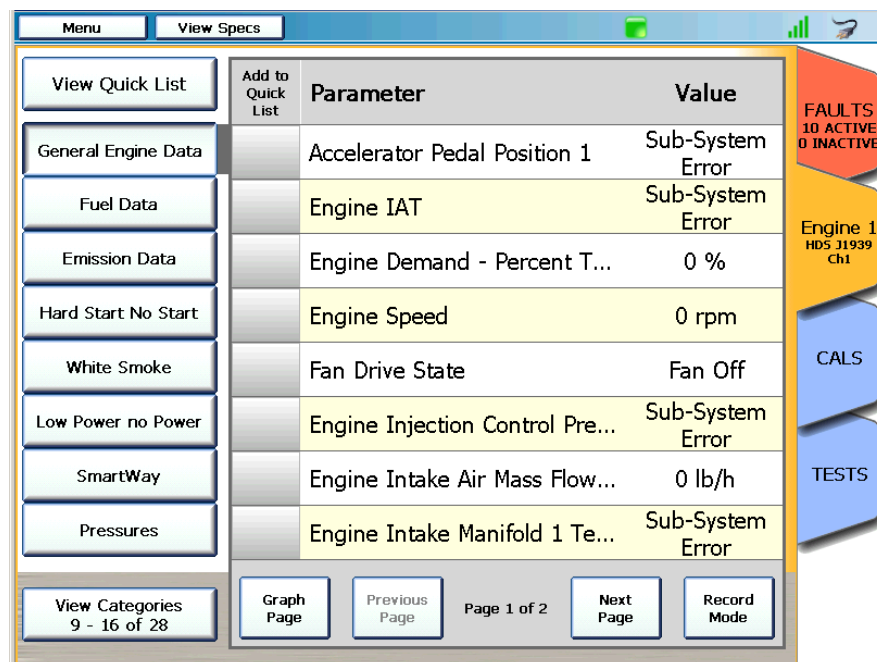
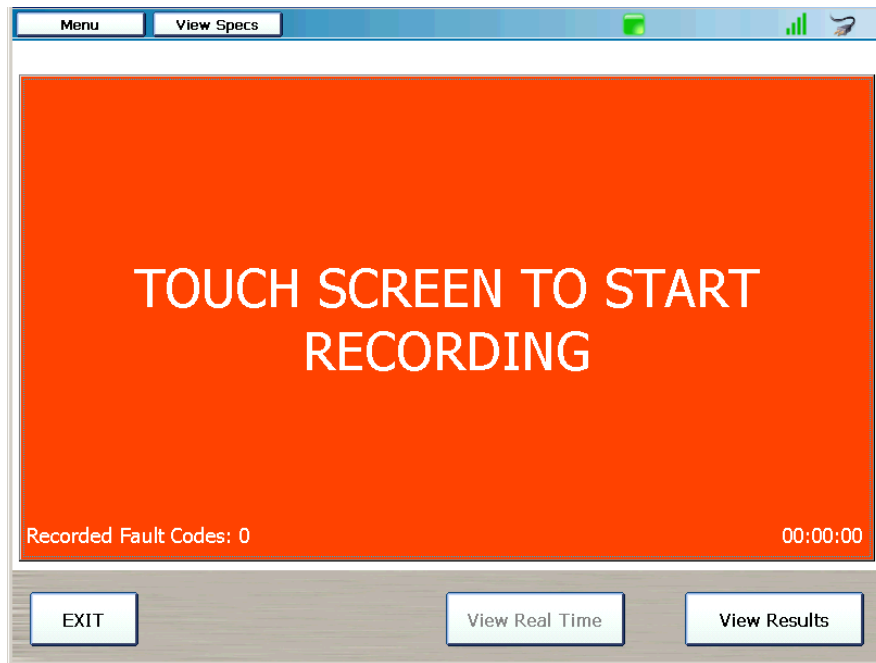

Figure 7.1 List of Parameters
Figure 7.2 Record Mode Screen
STOP	<ul style="list-style-type: none"> <li>• Ends a recording (you need to confirm that you want the recording to end).</li> <li>• Returns you to the Record Mode screen (Figure 7.2).</li> <li>• Changes to EXIT once you stop the recording; the EXIT button takes you back to the list of parameters (Figure 7.1).</li> </ul>
View Results	<ul style="list-style-type: none"> <li>• Enables you to review in Playback Mode the recording you created.</li> <li>• You must confirm that you want to stop the recording prior to viewing results.</li> </ul> <p>A number of buttons are available:</p> <ul style="list-style-type: none"> <li>• Rewind—enables you to rewind to the start of the recording.</li> <li>• Play—starts the recording. Changes to the Pause button once the playback begins.</li> <li>• Previous Bookmark and Next Bookmark—enable you to jump from one bookmark to the next.</li> <li>• EXIT—takes you back to the Record Mode screen (Figure 7.2).</li> </ul>
The **Record Mode** screen is displayed (Figure 7.2).
- 8 Touch **EXIT** to return to the list of parameters (Figure 7.1).
- By touching the **View Results** button on the Record Mode screen (Figure 7.2).